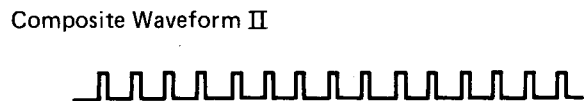

Fig. 5-c
6. In the Frequency Multiplier, the 90° phase difference between the two signals is utilized to produce, in a logic circuit, a composite signal of double frequency; this is then multiplied by 2 once again, resulting in four times the original frequency. See Fig. 5-c.